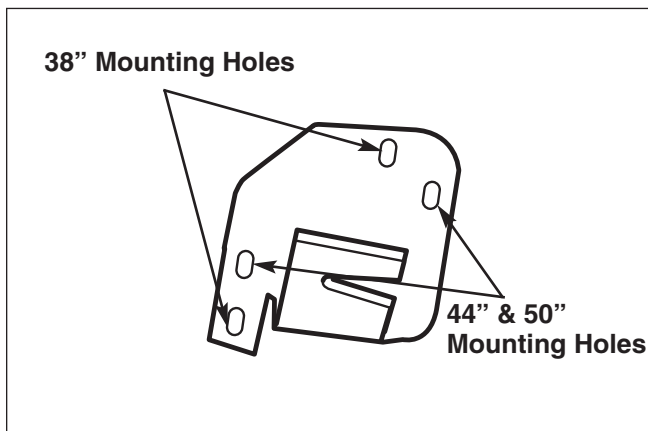
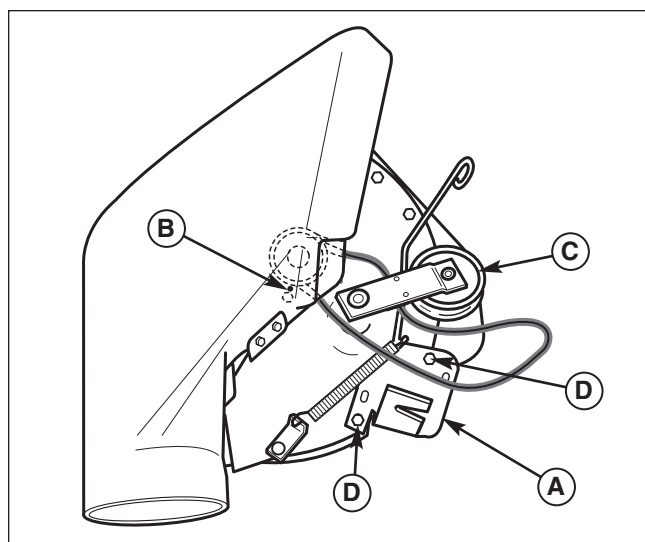

Figure 16. Mounting Latch Holes
Figure 17. Belt Routing - 38" Models
1. Select the correct belt for the mower deck used. See parts listing on page 6-7. Loosen the hardware securing the drive pulley belt guide (B, Figure 17 or 18) and the idler pulley (C).
2. Install the belt as shown in Figure 17 or 18.
3. Tighten the hardware securing the drive pulley belt guide (B, Figure 17 or 18) and the idler pulley (C) so the idler belt guide is within 1/16" (1.59mm) of the belt.
4. Remove and retain hardware (D, Figure 17 or 18). See Figure 16 for hole location. Install the mounting latch (A, Figure 17 or 18) to the reusing hardware (D).